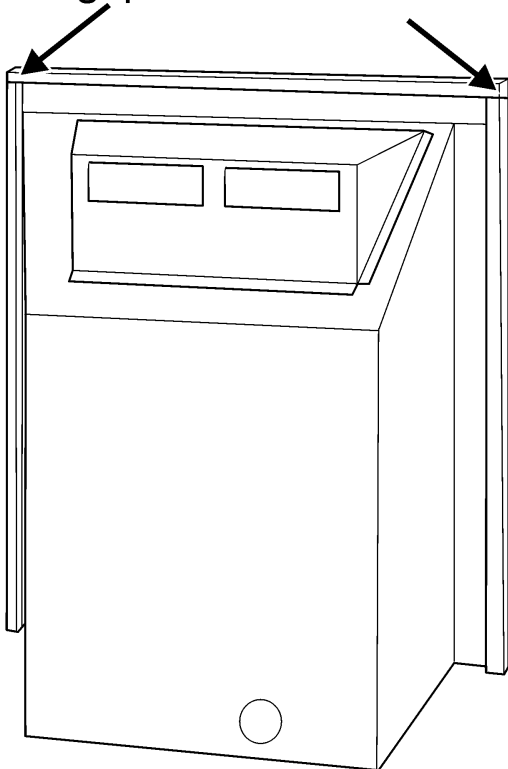

Figure 16. Fitting the foam seal
8. There is a length of self adhesive foam seal supplied with the fire. This will need to be fitted to the outer rear edges of the side and top flanges of the convection box. Cut a 485mm length of foam seal. Be careful not to stretch the seal when measuring. Remove the protective backing from the foam seal and fit this to the rear of the top flange (See figure 16). Cut two 580mm lengths. Fit these to the rear outer edges of the side flanges. Ensure that there is no gap between the foam seals where they meet at the top flange (See figure 16)